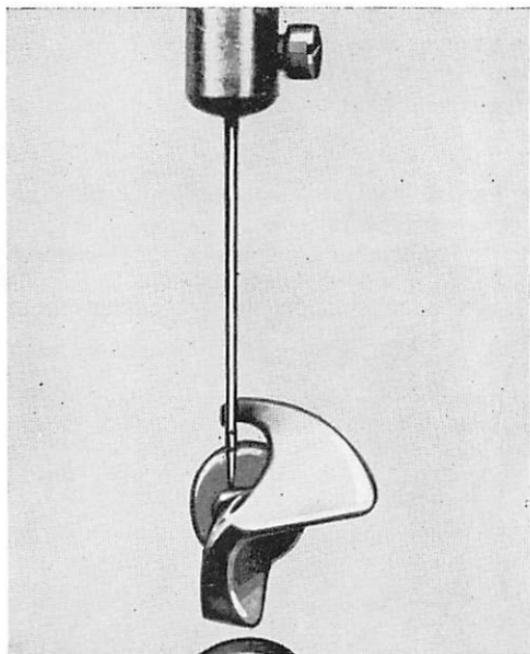

Fig. 7
The hand wheel should be turned in the proper direction until the needle bar is at its lowest point of stroke. Place a scale on the top side of the thread take-up eye (one that projects through the long slot in the faceplate) so that a reading may be obtained (usually against the top edge of the faceplate) then continue to turn the hand wheel until the takeup eye has moved  $\frac{5}{32}$ " **Upward**. At this position the point of the looper should be just beginning to show from behind the needle (see figure 7).
2. Providing the looper is properly timed in relation to the **upstroke** of the needle (see preceding pages "To Time and Set the Looper") the proper height, location, or position of the needle bar is determined by turning the machine until the looper point just begins to project behind the needle, then raise or lower the needle bar so that the **top** of the eye of the needle is  $1/32''$  (or  $3/64''$ ) below the lower edge of the looper (see figure 7).